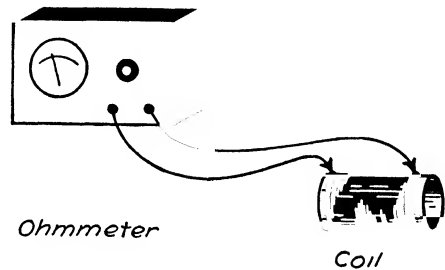

FIG. 52. You can use the ohmmeter to test a coil to find if the wires are broken. This is called a *continuity test*.
Step 1. Connect one test-point wire to the battery and one to the rheostat, as shown in Fig. 52.
Connect test points to an ohmmeter, and touch the free ends of the test points to the ends of a coil (see Fig. 52). If the coil is